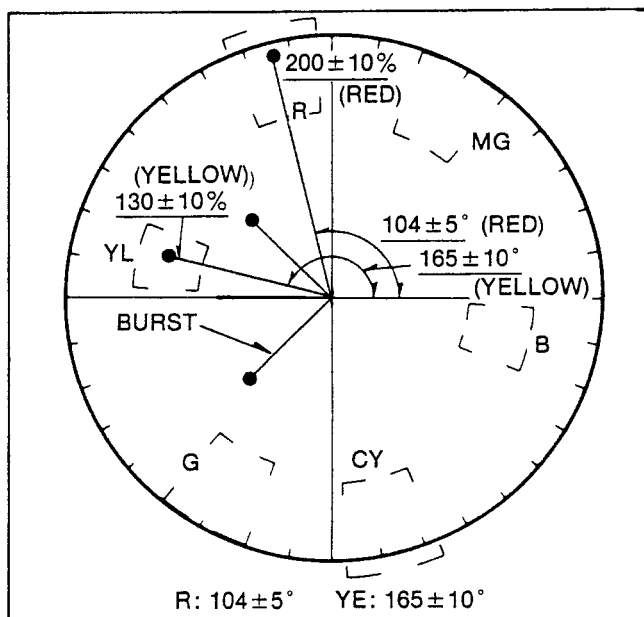

Fig. C27
- (1) Aim the camera at the Colour Chip Chart.
- (2) Set the vectorscope for NTSC mode.
- (3) Adjust the VR310 (Colour phase control) so that the cracked Red vector comes one.
- (4) Set the vectorscope to PAL mode.
- (5) Connect the jumper wire among TP511, TP512 and TP513.
- (6) Adjust the VR307 and VR308 (Colour phase control), VR313 (R-Y Gain control), VR314 (B-Y Gain control) so that the vector of each colour as shown in Fig. C27.